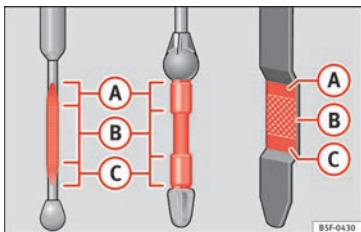

Fig. 241 Engine oil dipstick.
- Then pull it out once more and check the oil level » Fig. 241. Top up with engine oil if necessary.